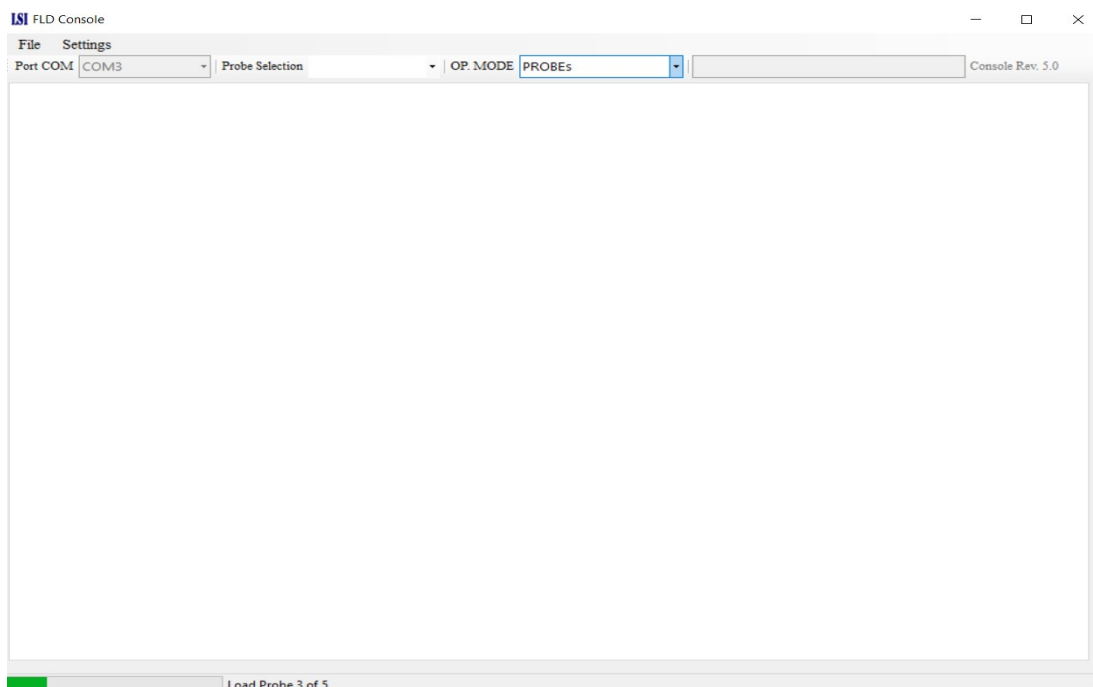
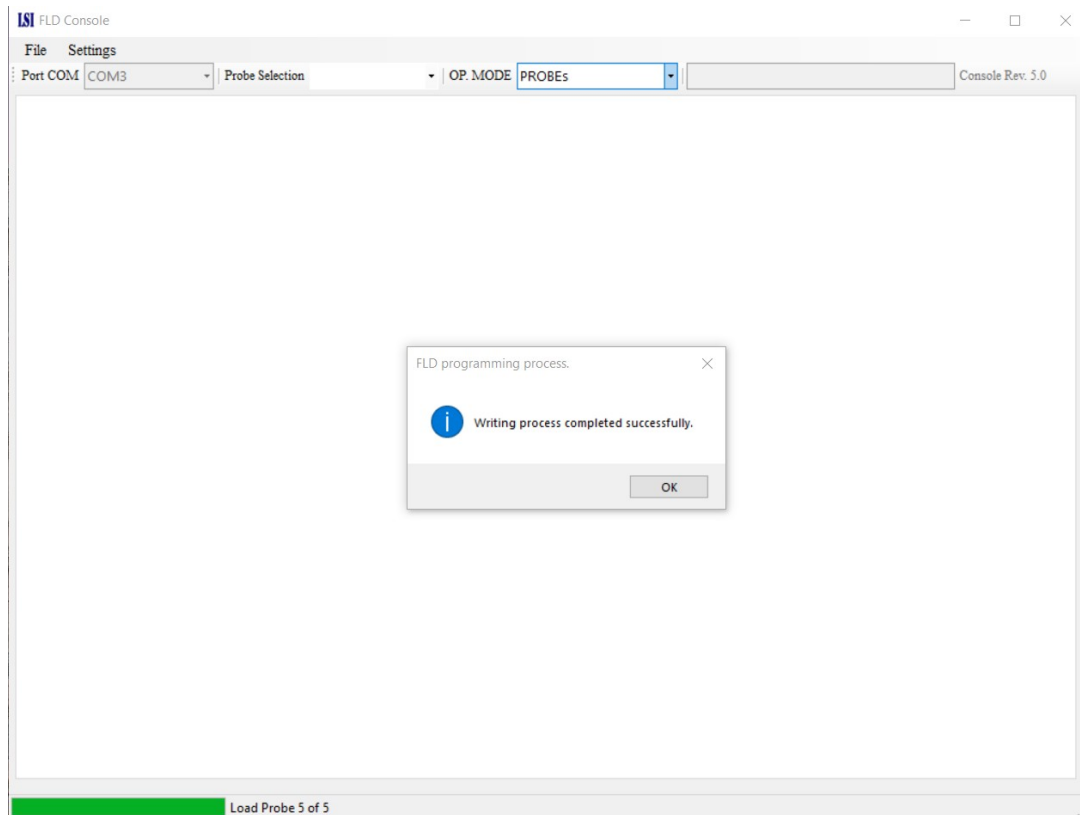

Figure 13 - Data loading process on FLD
Figure 14 - Data loading process end
- When the desired parameters have been changed and you are ready to make them operational on the FLD board, in File menu select the Send to Display option to configure the board and wait for the loading process end (see Figure 13 and Figure 14);